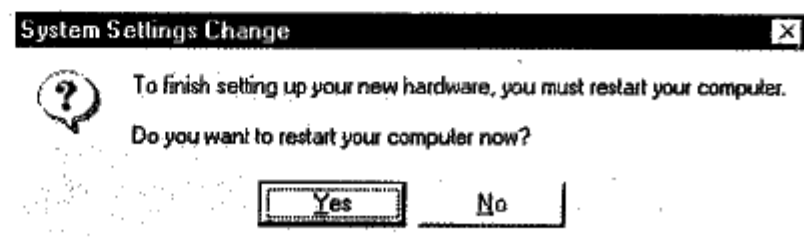

Figure 3-8
10. After finishing loading, the computer will display a dialog box titled "System Settings Change" as shown in Figure 3-8. Remove the "SL-2000CD Driver & Utility" diskette from floppy disk drive A. Click "Yes" to restart your computer.